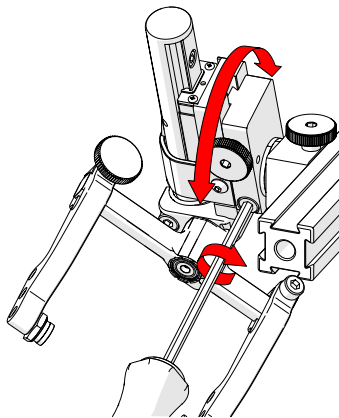

Fig. 103 - Rotate to position
3. Rotate the main body of the probe holder until it is at the desired angle (*Fig. 103*).
4. Tighten the longitudinal adjustment screw (*Fig. 103*).